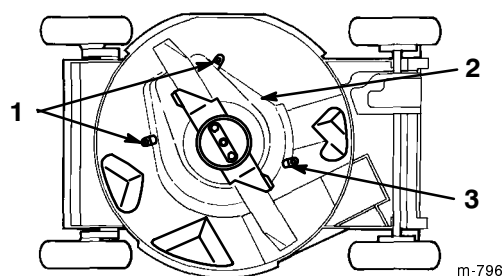

Figure 28
6. Loosen the tabs that secure the BBC shield to the deck by loosening the nuts or the bolts on the tabs (Fig. 28). Rotate the tabs 180° to move them out of the way.